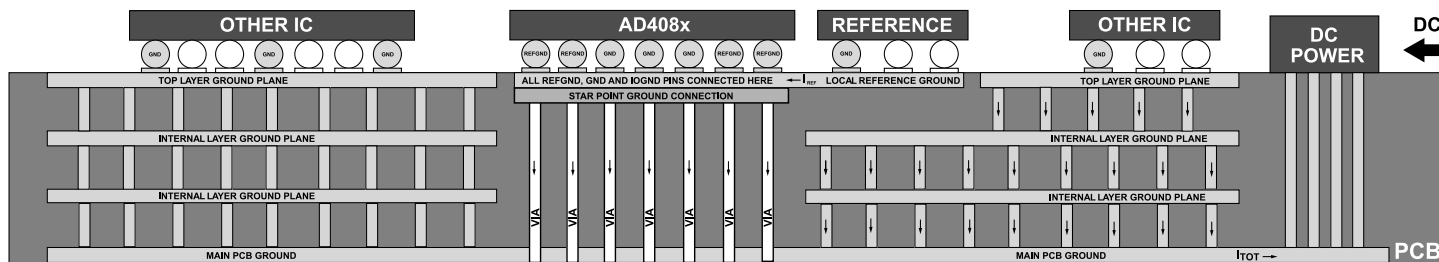

Figure 110. Recommended PCB Ground Planes Layout
- ▶ See Figure 110 for the side view cross-section of the PCB board showing the ground planes distribution. Note that Figure 110 only shows the ground planes but does not including the signal tracks.